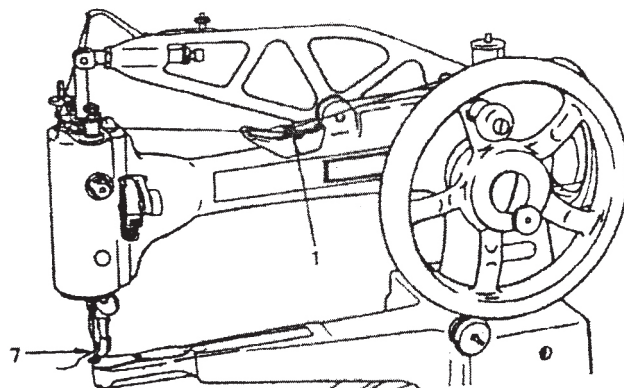

Fig.18
1. Place the spool of thread on the spool pin so that thread will draw from the rear side of spool. See Fig.18.